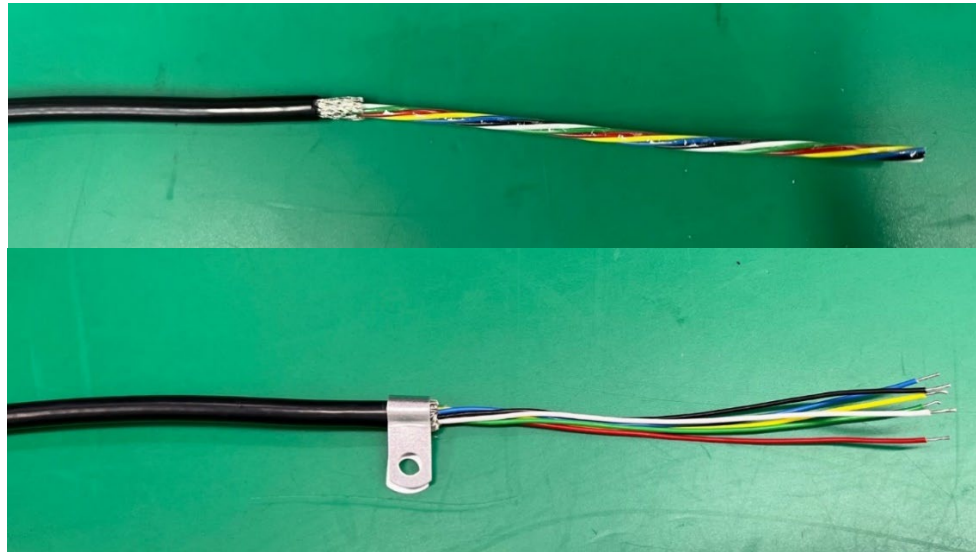
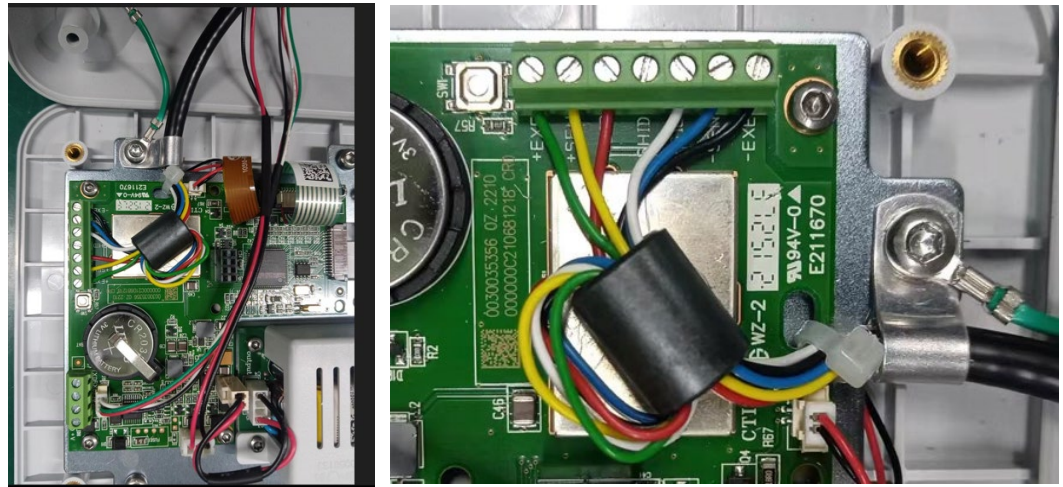

Figure 2-25: Load Cell Cable with Bayonet Fasten
Figure 2-26: Analog Load Cell Cable Ferrite Installation and Chassis Grounding, IND231
1. The load cell cable enters the housing through the cable gland indicated in Figure 2-26.
4. The grounding clip supplied with the terminal is used to connect the exposed shield (Figure 2-25) to the metal mounting plate using the enclosure hinge wire attachment screw, as shown in Figure 2-26.